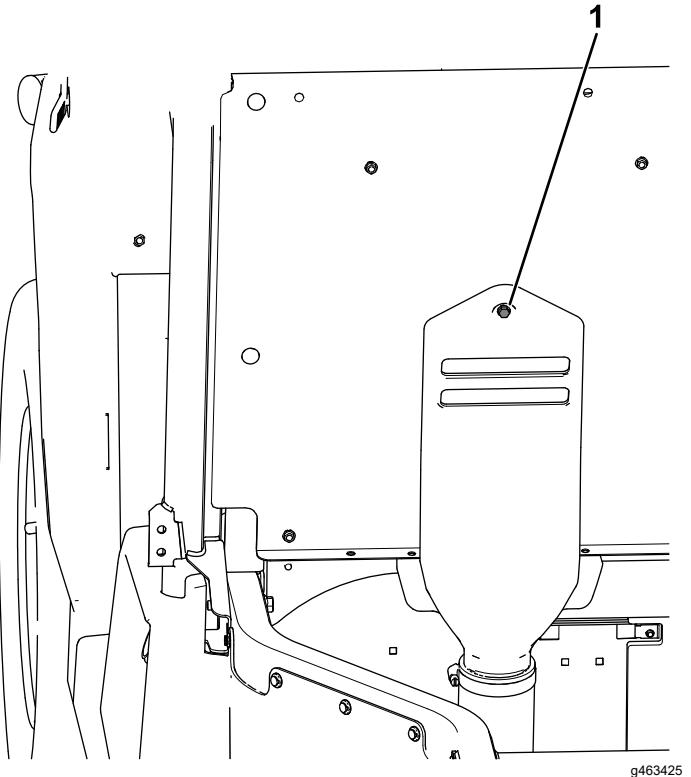

Figure 62
- Insert the captive bolt attached to the CVT-intake hood into the hole shown in the seat panel (Figure 62).